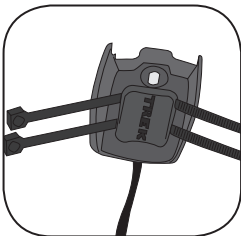

Figure 6- Nylon tie threaded through computer base
2. Insert two nylon ties through the computer base (Figure 6).